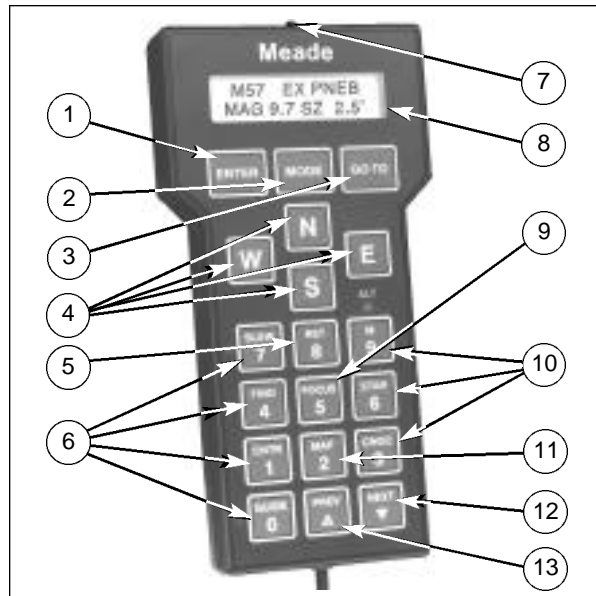

Fig.7: Keypad hand controller.
Use the **ENTER** key (1, Fig. 7) to select either a menu file or a file option or to edit a value. To select a file or an option, press and release the **ENTER** key. The LX200 emits a short beep and performs the action that you requested.
The **MODE** key (2, Fig.7) cycles through the five modes of the LX200. It is used to exit from specific menu files.
The **GO TO** key (3, Fig. 7) causes the LX200 automatically to slew to specific library entry coordinates. The **GO TO** key also produces a blinking cursor in the **GO TO** menu file of the COORDINATES/GO TO mode. This lets you to enter new R.A. and Dec. coordinates.
The N,S,E, and W keys (4, Fig. 7) make the LX200 move, or slew, in a specific direction. When you enter values, you can use the E and W keys to move the blinking cursor back and forth across the LCD display so you can correct errors.
The SLEW, FIND, CENTER, and GUIDE keys (6, Fig. 7) let you set the rate of movement (slew) speed in the drives of the LX200, as activated by the N,S,E, and W keys. The speed-indicator illuminated LED beside the rate key that you press indicates the selected rate. The speeds are SLEW (4° per second), FIND (1° per second), CNTR (16X sidereal rate), and GUIDE (2X sidereal rate).
Typically used for guiding the LX200 during an astrophotograph, the RET key (5, Fig. 7) is used to change the brightness and pulse rate of the optional corded-style illuminated-reticle eyepiece. Pressing either the **PREV** or **NEXT** (up and down arrow) keys while pressing the RET key alters the reticle-brightness level up or down.
The FOCUS key (9, Fig. 7) allows two-speed electric-focus control of the optional Meade #1206 Electric Focuser (or equivalent corded electric focusers, such as the Meade Model #1200A). To activate, press either the SLEW or FIND key (for fast focusing) or the CNTR or GUIDE key (for slow focusing), press and hold the FOCUS key, and then press and hold the **PREV** or **NEXT** keys for near and far focus.
The MAP key (11, Fig. 7) turns on and off the red LED flashlight, which is located at the top of the keypad. The deep red LED light will protect your night vision while you search for an accessory or examine a star chart.
The **PREV** key (12, Fig. 7) and **NEXT** (up and down arrow) key (12, Fig. 7) move the display LCD arrow up and down the menu files and menu file options so you can select an option. Use these keys also to adjust the RET brightness range or to activate the electric focuser. **PREV** and **NEXT** also work to select the objects from the object library when you use START FIND.
Once you have selected the desired mode, you can select the individual file within the mode by pressing the **PREV** or **NEXT** key (up or down arrow key), as shown in Fig. 7. This scrolls the arrow up or down next to the file description. Although you will be able to see only two menu selections at a time on the keypad display, you will see more as you continue to press the **PREV** and **NEXT** keys.